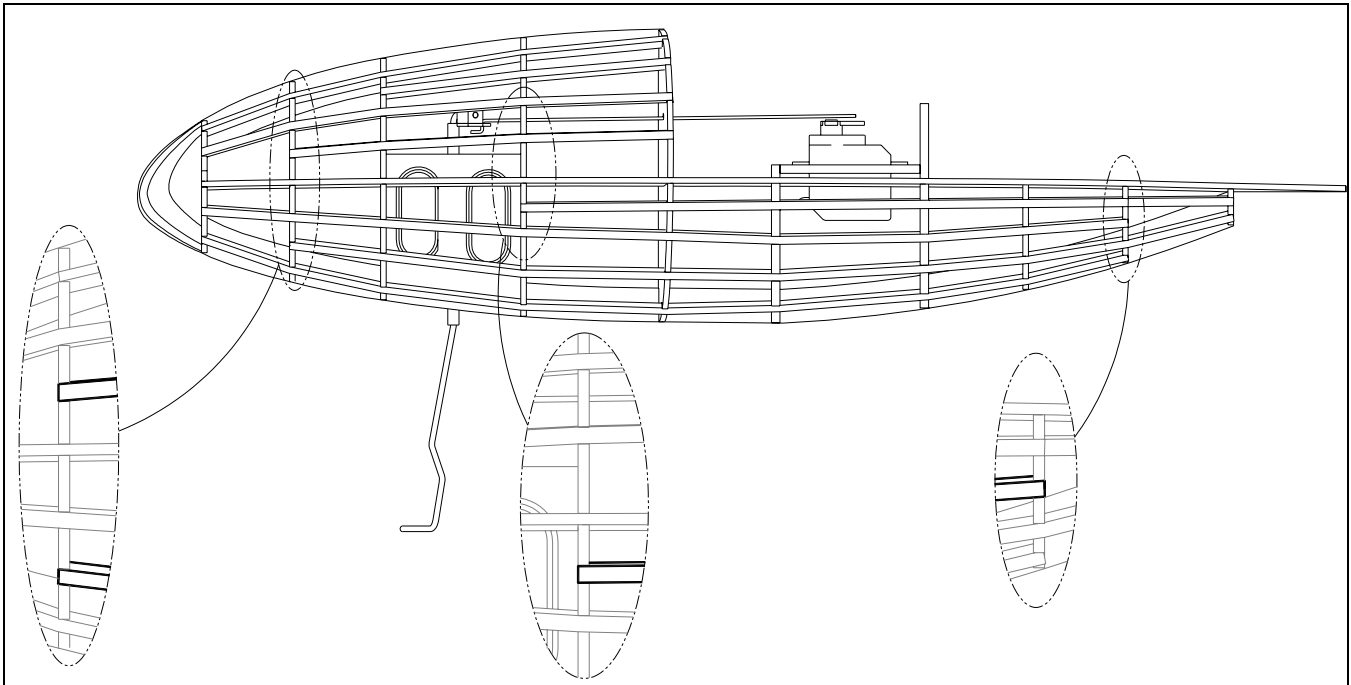

Figure 13
- ❑ Glue **3/32" SQ. Balsa Stringers** to the fuselage formers as shown in Figure 13 and the plans. Figure 13 illustrates important areas of the fuselage where stringers end.